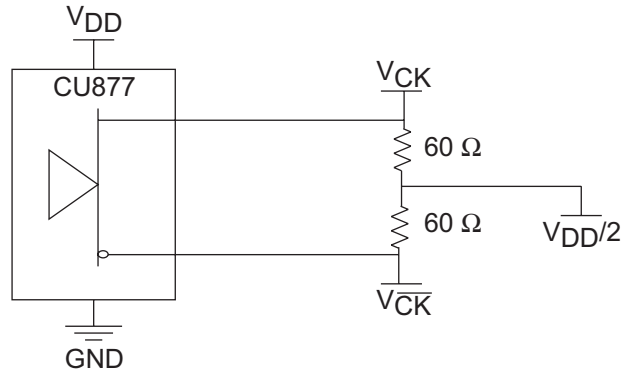

Figure 2. IBIS Model Output Load
1. There are two different terminations that are used with the following tests. The loadboard in Figure 2 is used to measure the input and output differential-pair cross voltage only. The loadboard in Figure 3 is used to measure all other tests. For consistency, equal length cables must be used.